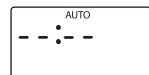

fig. 3
- When set in this way the heater will automatically switch on at the set time for the designated time period and automatically maintain the preset comfort temperature. To cancel a preset program, press the timer button A or B once and then press the hour button until the display shows "--:--" (fig.3).